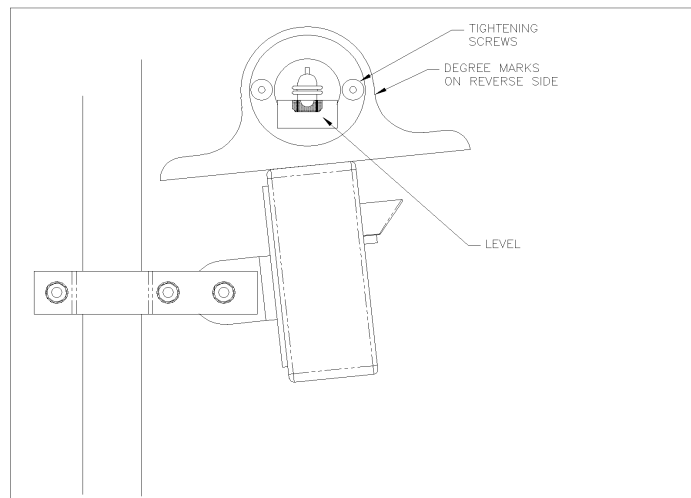

Figure 1-21. Ambient Light Sensor - Protractor/Inclinometer/Angle Locator
- a. Using protractor/inclinometer/angle locator, ensure Ambient Light Sensor is angled between  $4^{\circ}$  and  $8^{\circ}$  above horizontal (Figure 1-21).